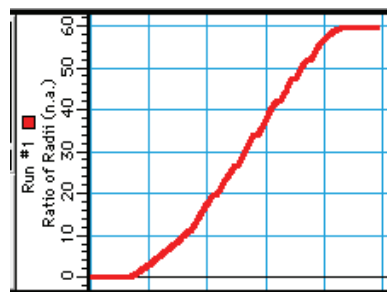

Figure 10: Sample Degree Plate Calibration Data
- In the Graph display, use the built-in Statistics tools to find the maximum value of the “Ratio of Radii” (i.e., the maximum of y - see Fig. 10). This value is the exact ratio of the Degree Plate radius to the small Pinion post radius. (Note: This value should be close to 60.) Record the actual ratio.